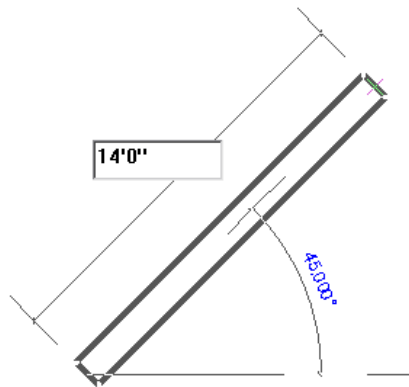

Figure 2-35 Sketching the first inclined wall segment
- f. Select the **Line** sketching option and sketch the inclined wall profile using the **Chain** option, refer to Figures 2-35 through 2-41.
5. Enter the value **14'0"** to specify the length of the first wall segment. The value is displayed in the edit box, as shown in Figure 2-35. This creates the first wall segment of the desired length.